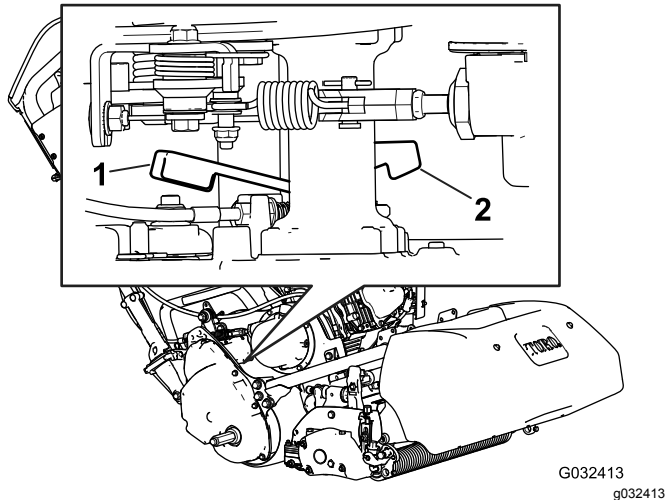

Figure 30
1. On the right, rear corner of the machine, locate the traction engage/disengage lever next to the drive-housing drum (Figure 30).